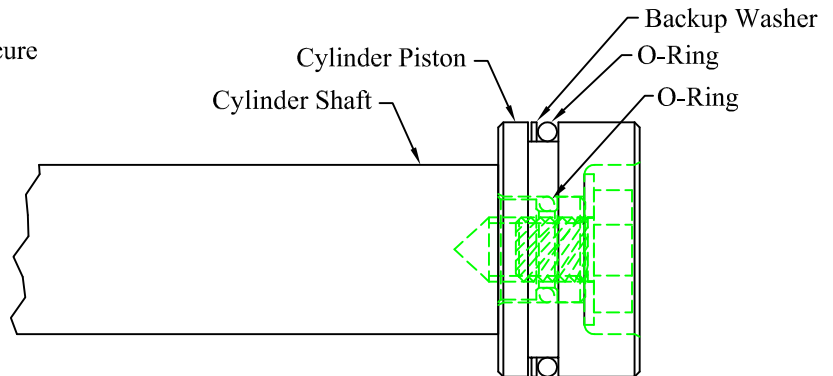

Figure 4: Cylinder piston and shaft.
- Step 9. Install the new guide bushing and piston (Figure 5). Be sure to put the backup washer ahead of the "O" ring as shown (Figure 4).